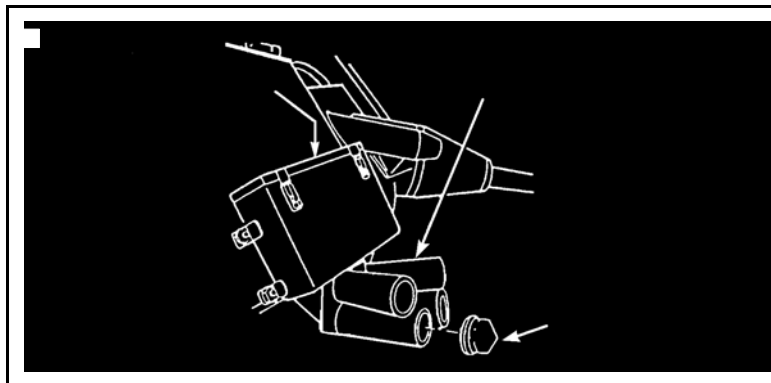

Figure 1. M257 smoke grenade launcher.
2. Inspect and clean the smoke grenade stowage bins and launcher tubes in accordance with TM 9-2350-252-10-2. Be sure not to misplace the discharger caps (Figure 1).